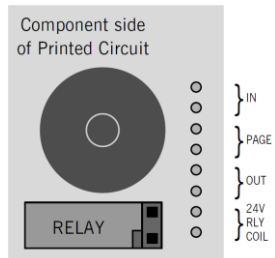

Figure 2. Showing relay in the "0V to over-ride" position.
For special applications this mode of operation may be reversed so that removal of 24volts initiates volume restoration. Should the unit be required to operate in this mode the relay must be removed from its socket and replaced in the alternative position as shown in Fig. 2.
4. Keeping the relay the same way round relative to the socket, move it to the position shown in Fig. 2, align the pins and press home firmly.